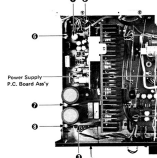

Fig. 10
- (1) Remove heat sink and power supply P.C. Board ass'y, see Fig. 10 & 11.
- (2) Remove dial pointer and old dial cord.
- (9) Turn the tuning shaft 1/2 and under the ribs on the rear of the dial pointer (see Detail) and place the pointer on the top of the dial panel (see Fig. 10).
- (10) Place the dial cord over and under the ribs on the rear of the dial pointer (see Detail) and place the pointer on the top of the dial panel (see Fig. 10).
- (11) Turn the tuning shaft clockwise. Slide the dial pointer to zero (0) calibration marker on the tagging scale while holding tuning shaft fully clockwise. Cement the dial pointer to dial cord to prevent slippage. Allow cement to dry thoroughly.
- (12) Reinstall the heat sink and power supply P.C. Board ass'y. Reconnect all plugs (removed previously) to their respective sockets.
- (13) Check dial calibration. Refer to FM/AM alignment.
- (14) Replace top cover.